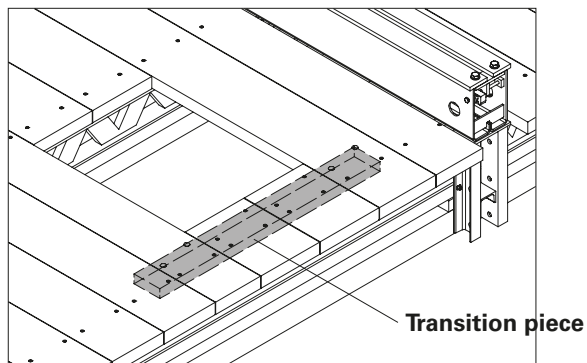

Fig. B3.03
- If the plank can only be fixed to one platform beam, fit a transition piece in order to fix the planking. (Fig. B3.03)